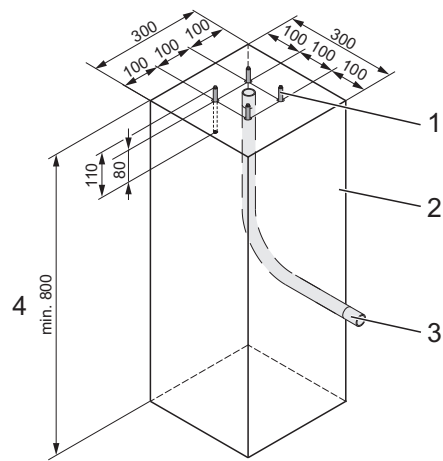

Fig. 17: Foundation plan for nesting post and light barrier post
1. Dig foundation hole pursuant to and Fig. 17.
2. Place empty conduit pursuant to Fig. 17 in the foundation hole.
4. Fill concrete foundation pursuant to Fig. 17.